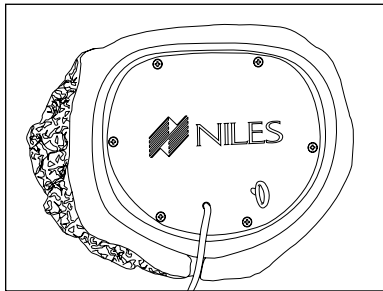

Figure 7 Bottom of Loudspeaker
- With the loudspeaker in the proper location per the layout, turn the loudspeaker over so the bottom of the loudspeaker is facing you, as shown in **Figure 7**.